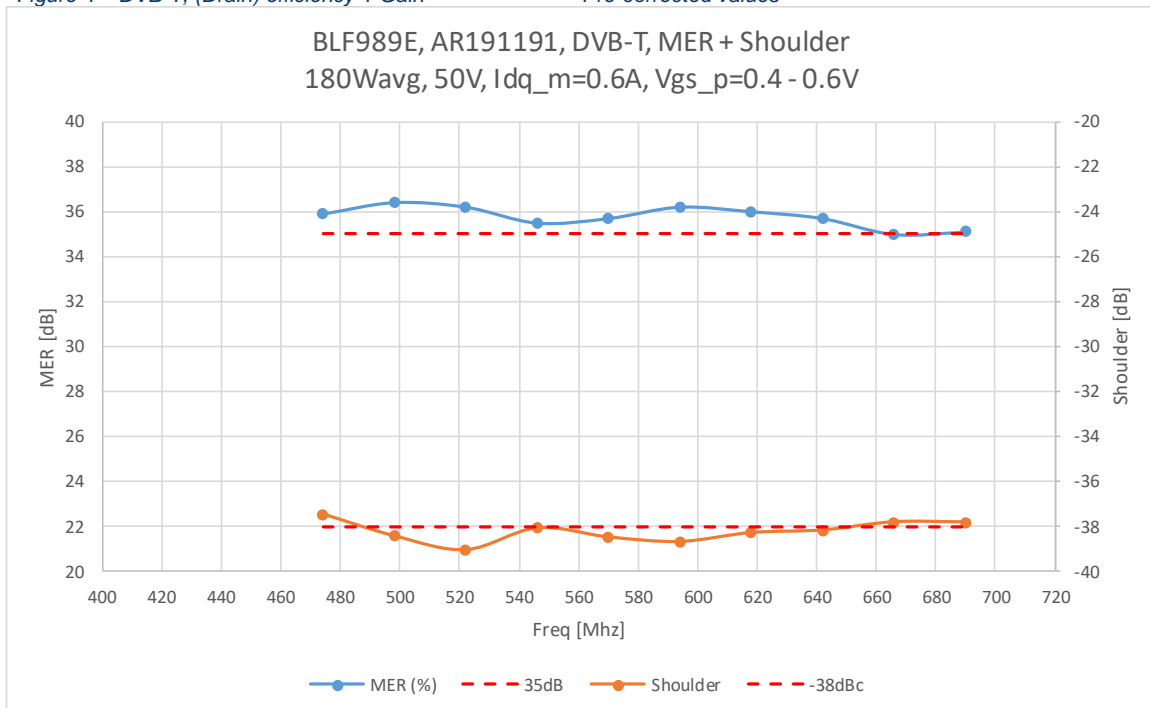

Figure 5 DVB-T, MER + Shoulder (4.3Mhz distance) Pre-corrected values
- Figure 5 DVB-T, MER + Shoulder (4.3Mhz distance) Pre-corrected values 7